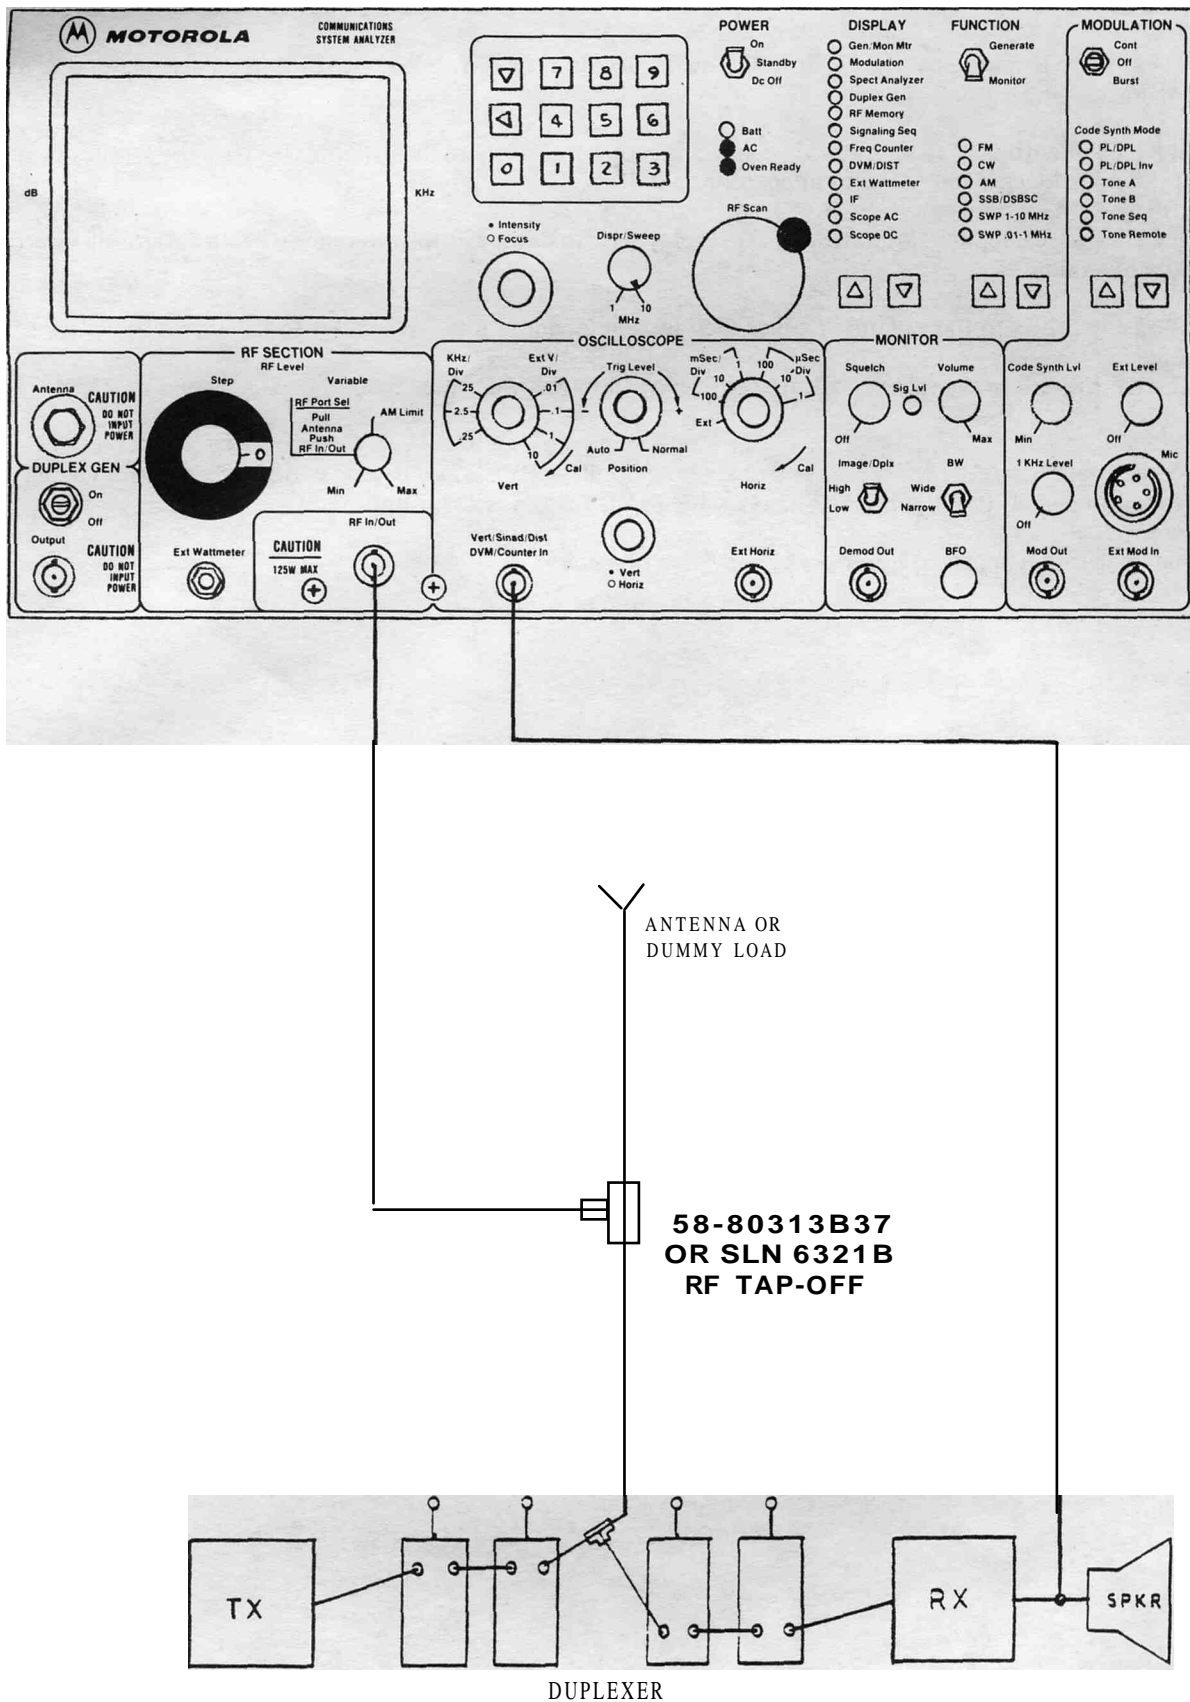

FIGURE 4-24. DESENSITIZATION TEST SETUP
1. Connect the Analyzer to the repeater/duplexer under test, as shown in figure 4-24. Connect the RF In/Out to the duplexer's antenna port through an RF tap-off isolating device.